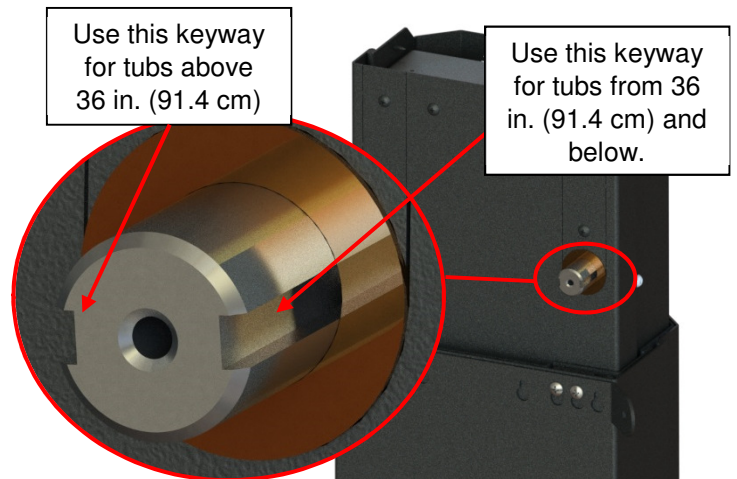

Figure 70
- 2) Install the 1/4-1/4-1 in. key in the shaft's keyway located on the post. (Figure 70)